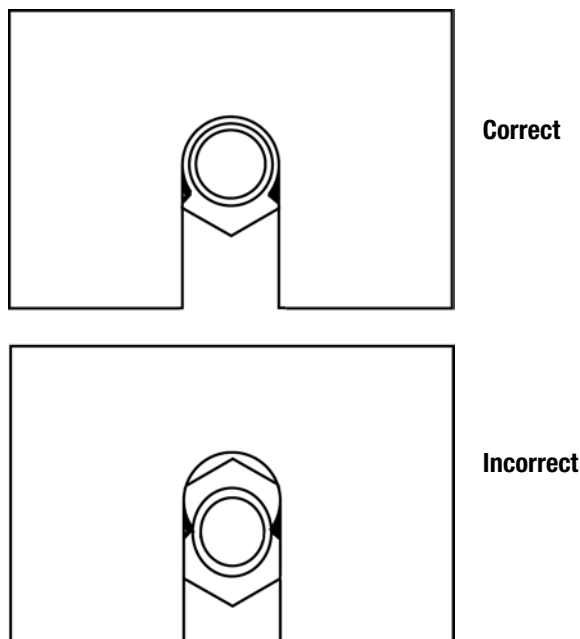

Figure 6-12: Correct and incorrect rotating seal installation
- 28** Verify that the rubber collar of the rotating seal is pushed all the way into the circular slot at the rear of the seal weight (Figure 6-12).